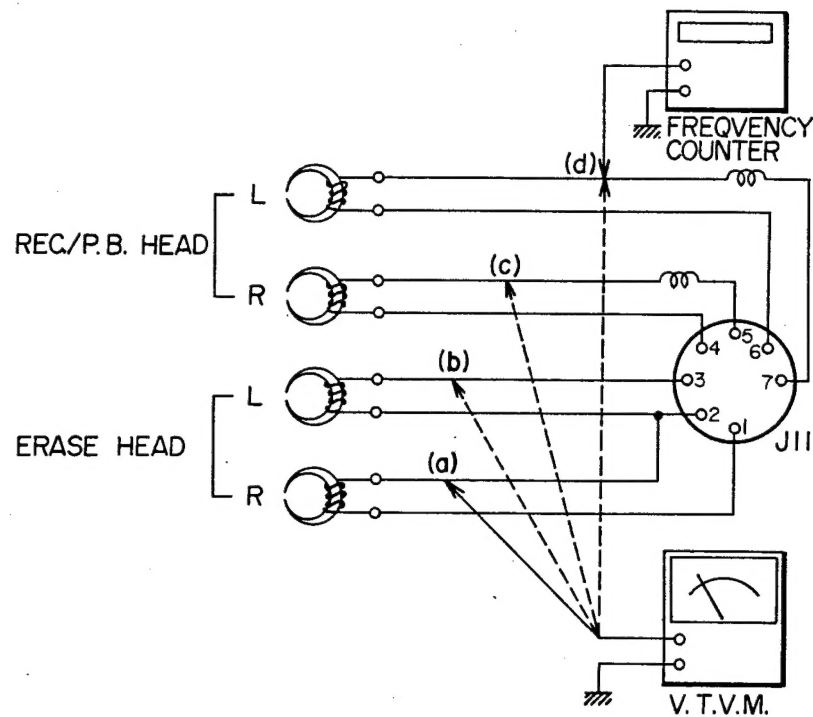

Fig. 12
- Connect a frequency counter to point (d) in Fig. 12 of the recording head and read the frequency indication.
### 2. RECORDING BIAS VOLTAGE (See Fig. 12)
### 3. ERASE BIAS VOLTAGE (See Fig. 12)